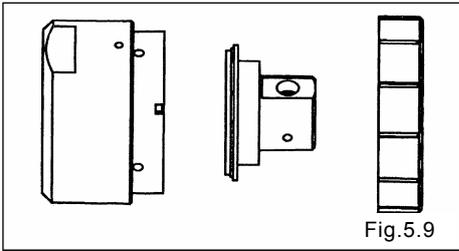

Fig.5.9
- Remove the out chamber. [Fig. 5.9]